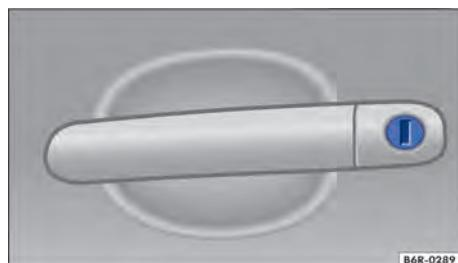

Fig. 43 Driver door handle with lock cylinder.
- Insert the key bit into the lock cylinder and lock/unlock the vehicle → Fig. 43.